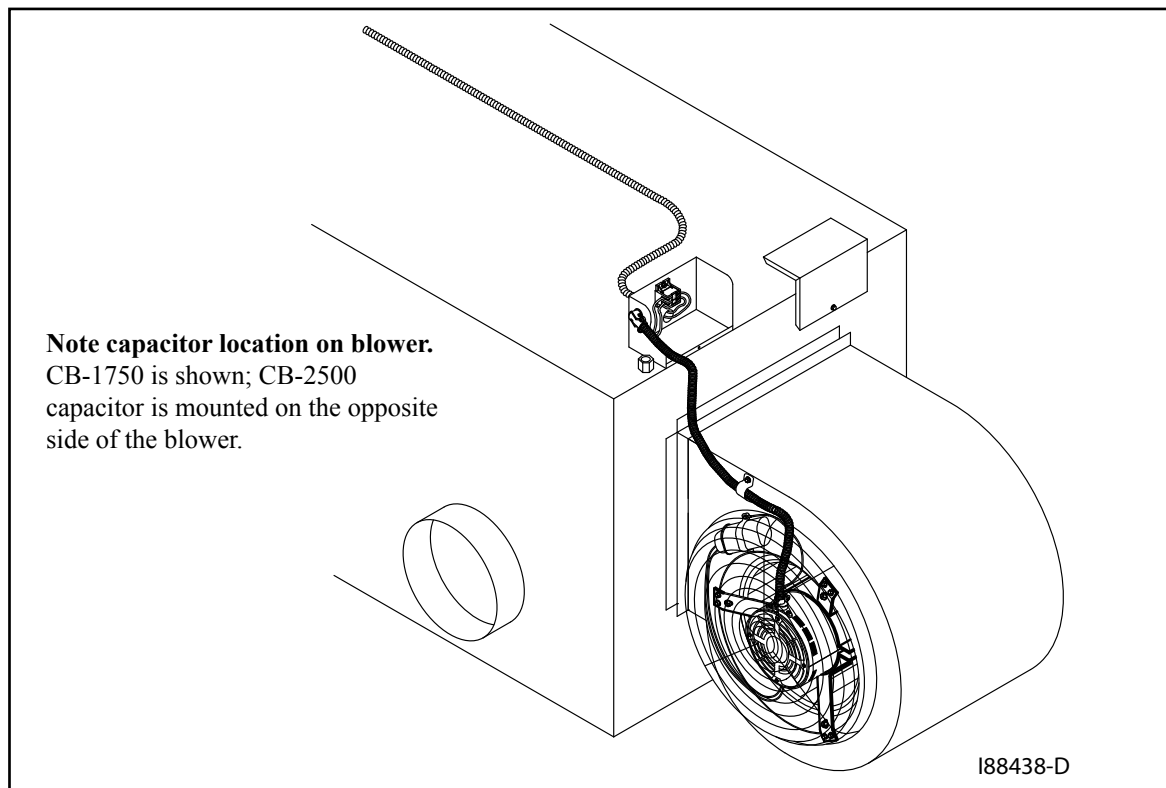

Figure 3C - Blower Installed on Furnace Cabinet (CB-1750 and CB-2500)
1. After the blower has been secured to the back of the furnace cabinet, install the electrical conduit with the blower motor leads into the 4" x 6" rear junction box on the top of the furnace cabinet as shown in Figure 3C.